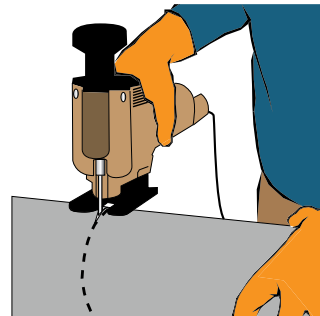

FIG. 25d
- Move the O-Ring away from the marked line and cut the pipe (NOT the Sleeve). Make sure the cut is free of burrs and that it maintains its round shape [FIG. 25d].